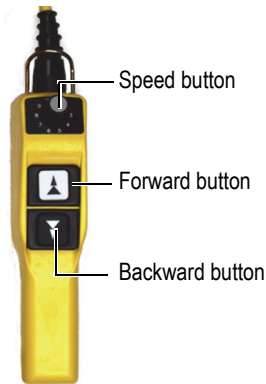

Figure 4-1 WeldROVER—Remote control for MCDC-01
1. On the remote control, press the corresponding button halfway down (see Figure 4-1 on page 56).
1. On the remote control, press the corresponding button completely down (see Figure 4-1 on page 56).